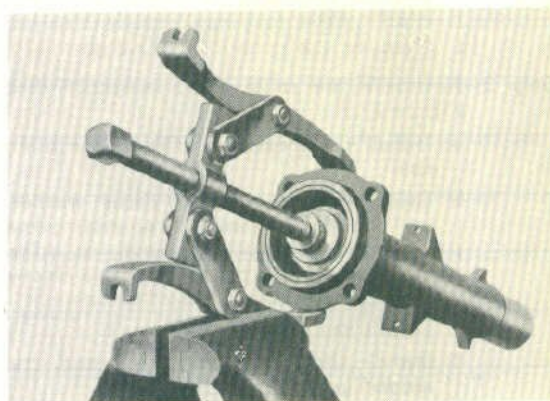

Fig. 24
- Install the oil seal as shown in Figure 24.